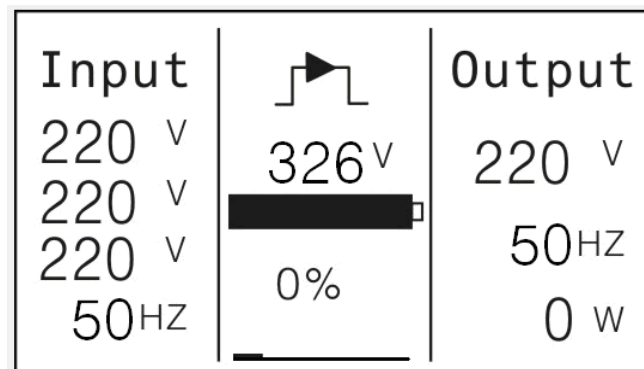

Fig. 4-5
- 1) To turn off the inverter of UPS by pressing the button continuously for more than 3 seconds and the buzzer will beep for 3s. The UPS will turn into Bypass mode (Fig. 4-5).